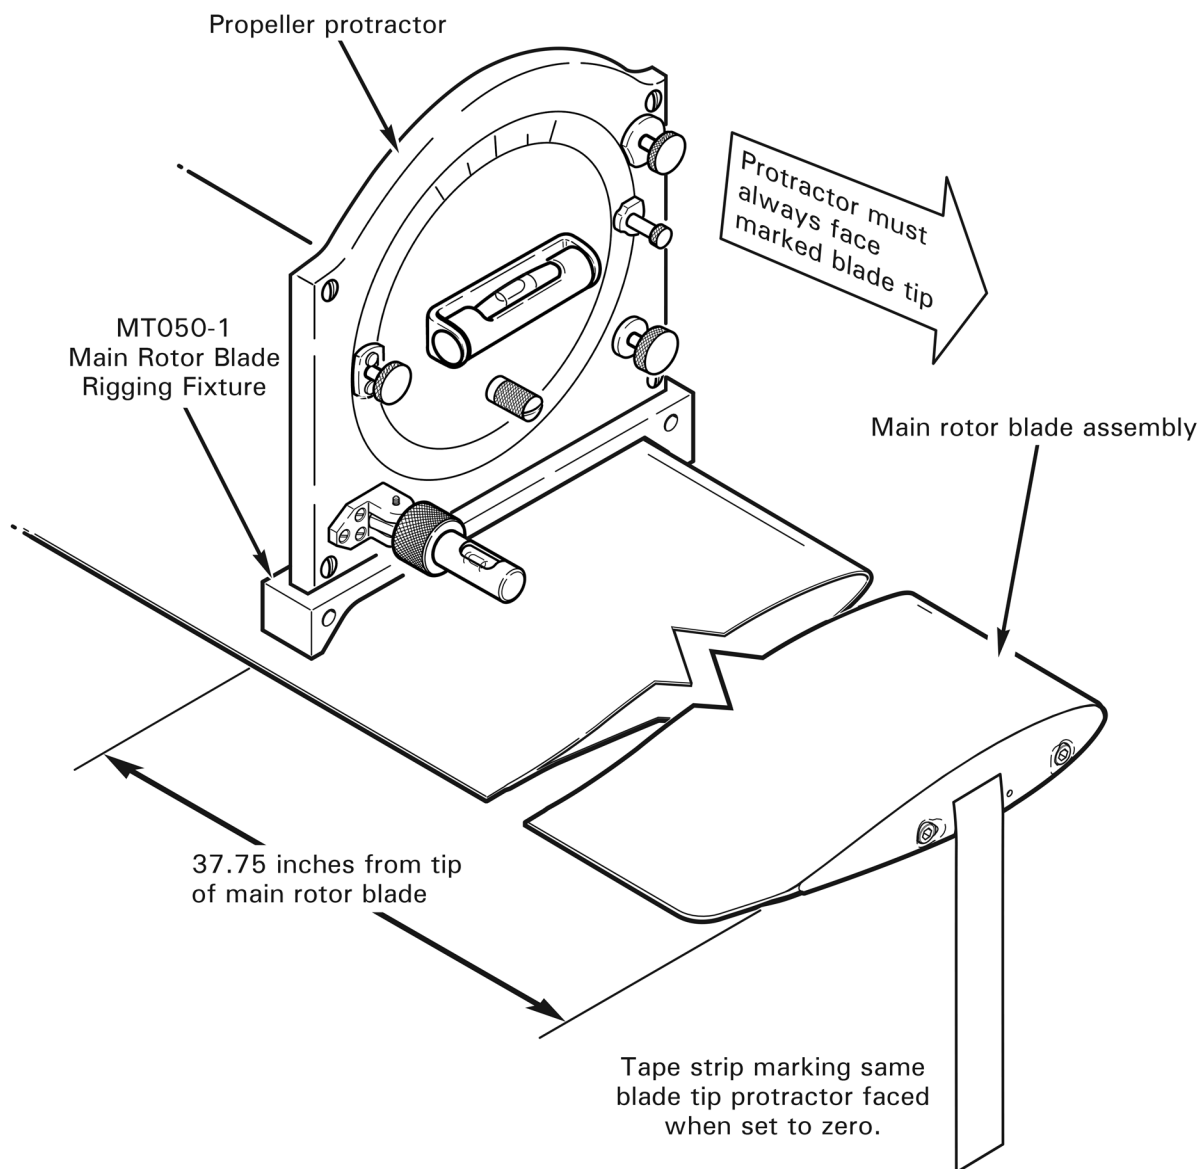

FIGURE 10-4 MAIN ROTOR BLADE RIGGING
Main rotor blade angles are measured using MT050-1 rigging fixture and a Kell-Strom KS113 propeller protractor or a comparable protractor (refer to Figure 10-4). Use following procedure to set up for rigging:
a. Refer to Figure 10-4. Measure blade angles and record below. Rotate rotor 180° and record blade angles below. Adjust blade angles per step 4.b.
- a. Refer to Figure 10-4. Measure blade angles and record below. Rotate rotor 180° and record blade angles below. Adjust blade angles per step 6.b.
- a. Refer to Figure 10-4. Measure blade angles and record below. Rotate rotor 180° and record blade angles below. Adjust blade angles per step 9.b.
a. Refer to Figure 10-4. Measure blade angles and record below. Rotate rotor 180° and record blade angles below. Adjust blade angles per step 11.b.
- a. Refer to Figure 10-4. Measure blade angles and record below. Rotate rotor 180° and record blade angles below. Adjust blade angles per steps 3.b.